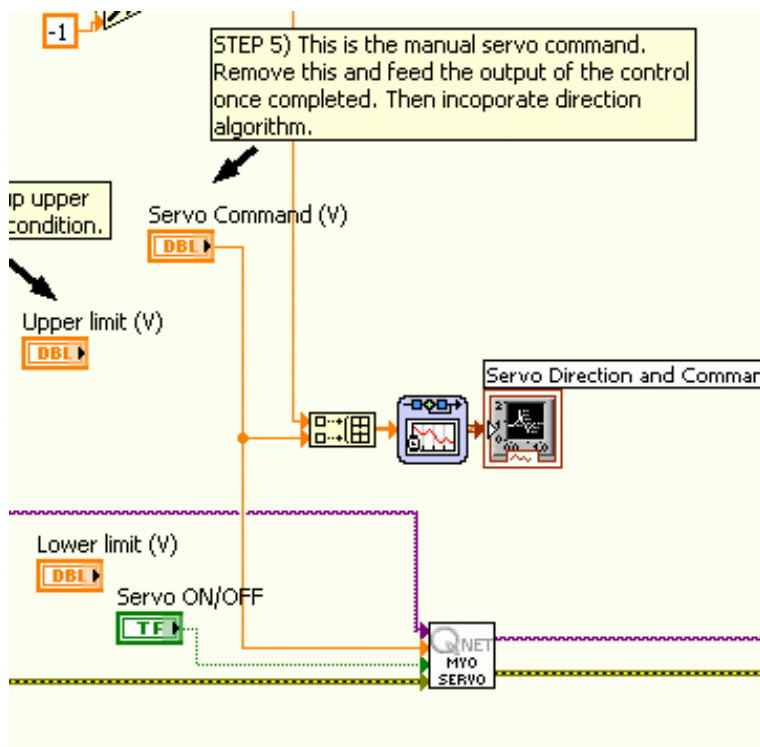

Figure 2.5: Disconnect manual servo command and use output of integrator
9. Disconnect the Servo Command (V) control and wire the integrator output instead as shown in Figure 2.5. This should be connected to the Servo Direction and Command chart (second input of cluster) and the Servo (V) terminal on the QNET\_MYOELECTRIC\_Servo\_Write sub-VI. Also, make sure the direction from the Manual Direction control is plotted on the Servo Direction and Command chart (first input of cluster). Attach an image of the block diagram.